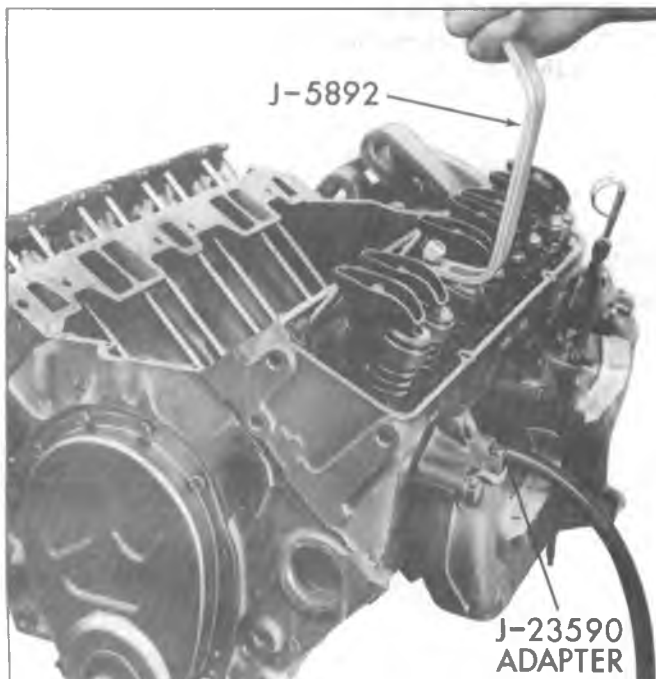

Fig. 6A4-13--Compressing Valve Spring
4. Using Tool J-5892 to compress the valve spring, remove the valve locks, valve cap, oil shedder and valve spring and damper (fig. 6A4-13).